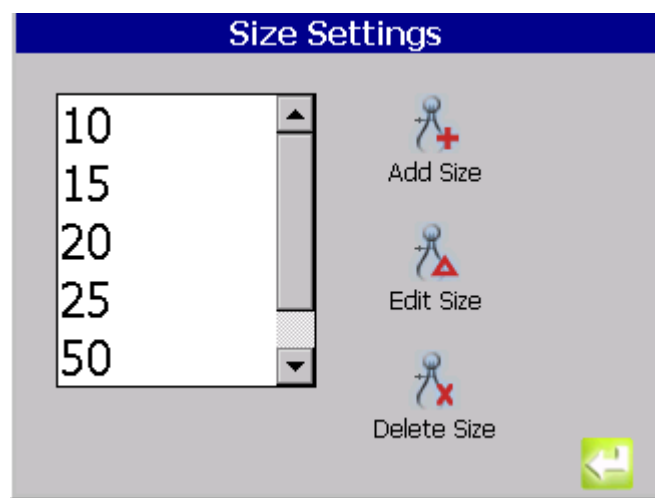

Fig 3-6 : Sizes Tab
From the Main Screen, select the **Setup** icon > **Sizes** icon to invoke the **Size Settings** screen, shown in Figure 3-6.
- 1) From the Main Screen, select the **Setup** icon > **Sizes** icon to invoke the **Size Settings** screen, shown in Figure 3-6.